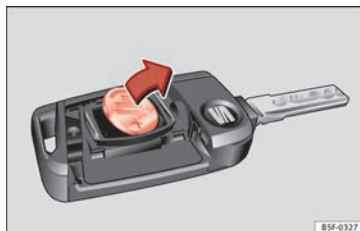

Fig. 94 Vehicle key: removing the battery
- Extract the battery from the compartment using a suitable thin object » **Fig. 94**.
- Place the new battery in the compartment as shown » **Fig. 94**, pressing in the opposite direction to that shown by the arrow » **!**.